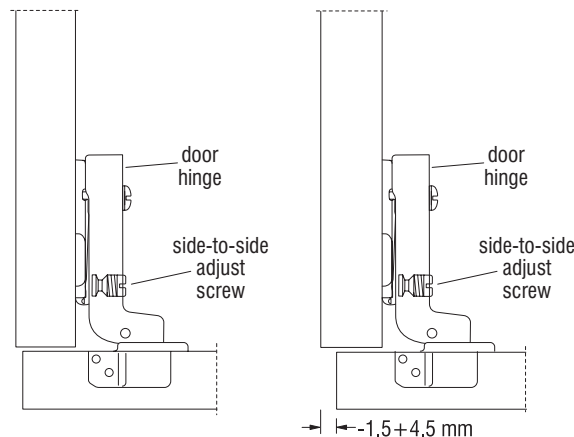

Figure 13 - Side-to-Side Adjustment
18. For **side-to-side adjustment**, turn the side-to-side adjust screw in or out. The screw works in conjunction with the inner leaf of the hinge arm to move the door back or forth without a change in gap between the door and the cabinet (Figure 13).